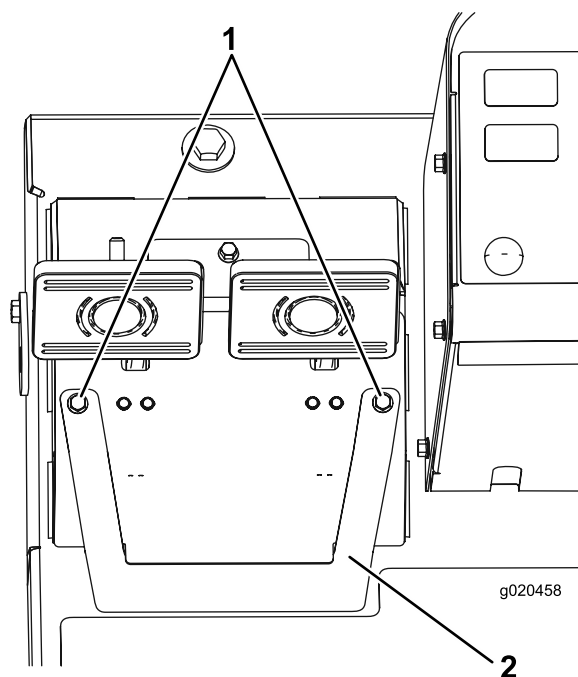

Figure 66
- A. Loosen the 2 mounting screws and remove the brake adjustment cover (Figure 66).